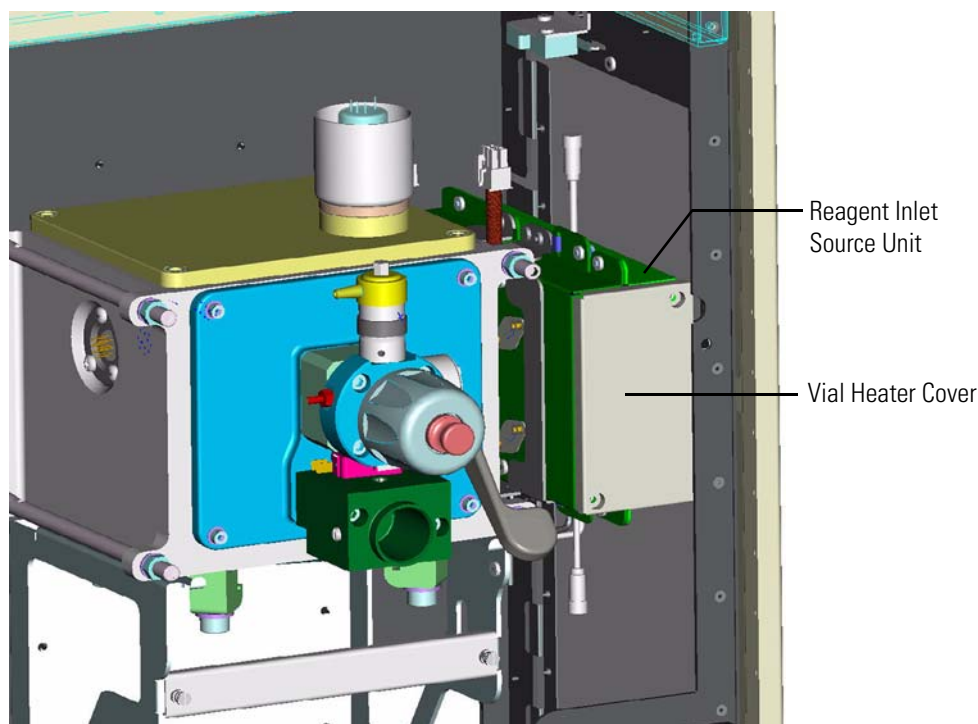

Figure 6-45. ETD Module with back panel removed
1. Remove the back panel from the ETD Module. (See “Removing the ETD Main Access Panel” on page 6-21.) This exposes the reagent inlet source heating unit, which has its own cover (Figure 6-45 on page 6-54).
4. With a Phillips screwdriver, remove the screws in the vial heater cover. The vial heater cover is on the right side of the ETD Module as you view it from the back of the Orbitrap Elite ETD mass spectrometer (Figure 6-45).